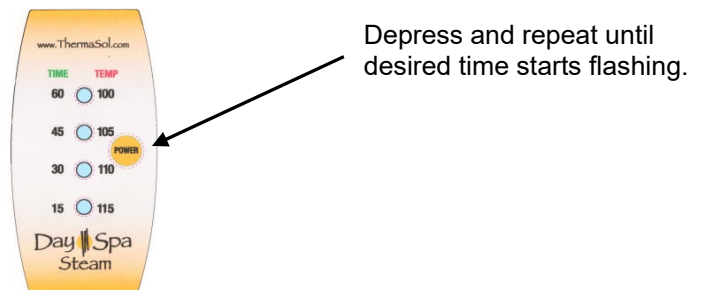

Figure 8
- 2. Changing Session Time.** While the green LED is still flashing (within 4 seconds), momentarily press the “Control Button”. Repeat until the green LED associated with your desired time starts flashing. Once the desired time is flashing, wait 4 seconds and that time will be accepted by the control. **(Figure 8)**